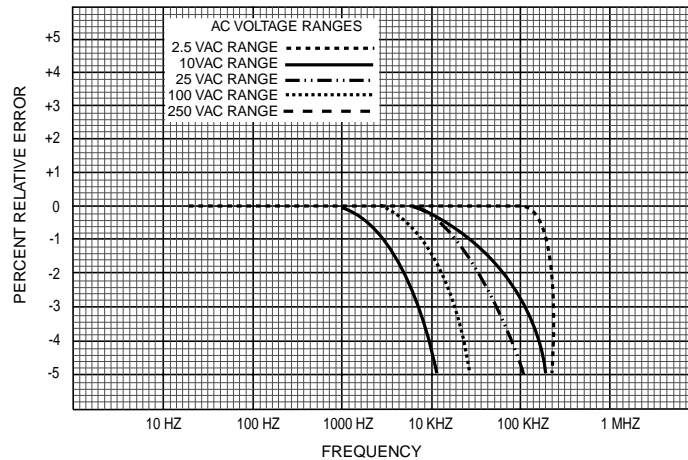

Figure 4-1. Typical Frequency Response, ACV Ranges
**NOTE:** The Simpson 260-6XLPM responds to the full wave average value of an AC waveform. It is calibrated in terms of the RMS value of a pure sine wave. If the waveform is nonsinusoidal, the reading might be either higher or lower than the true RMS value and could result in a substantial error. Also, accuracy is lessened at higher input frequencies (Figure 4-1).
It is often necessary to measure the AC component of a voltage consisting of a mixture of AC and DC voltages, as in amplifier circuits. The 260's have a 0.1  $\mu\text{f}$ , 400V capacitor in series with the OUTPUT jack. The capacitor blocks the DC component of the voltage in the test circuit, but passes the AC component. The blocking capacitor alters the AC response of each Instrument at low frequencies. (See Figure 4-1 for Frequency Response.)